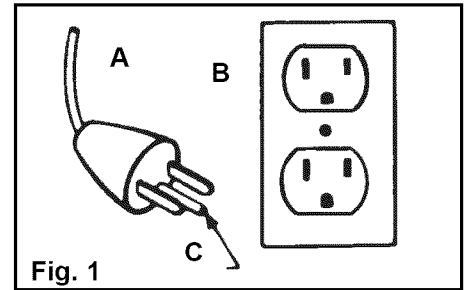
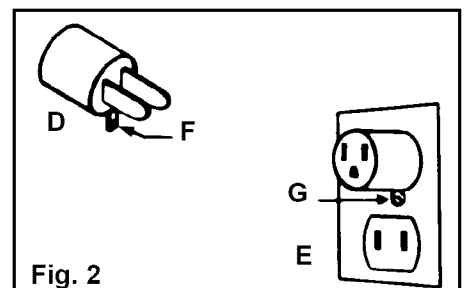

Fig. 1
Fig. 2
Improper connection of the equipment-grounding conductor can result in the risk of electric shock. Check with a qualified electrician or service person if you are in doubt as to whether the outlet is properly grounded. Do not modify the plug provided with the appliance - if it will not fit the outlet, have a proper outlet installed by a qualified electrician. This appliance is for use on a nominal 120 volt circuit and has a grounding plug that looks like the plug (A) illustrated in sketch (Fig. 1).
A temporary adapter (D) may be used to connect this plug to a 2-pole receptacle (E) if a properly grounded outlet is not available (Fig. 2). The temporary adapter should be used only until a properly grounded outlet (B) can be installed by a qualified electrician (Fig. 1). The green colored rigid ear, lug, or the like (F) extending from the adapter must be connected to a permanent ground (G) such as a properly grounded outlet box cover (Fig. 2). Whenever the adapter is used, it must be held in place by a metal screw. **NOTE:** In Canada, the use of a temporary adapter is not permitted by the Canadian Electrical Code.